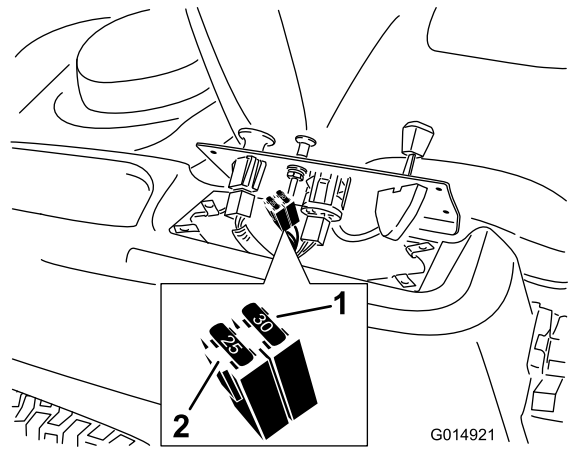

Figure 43
2. Lift the control pane up to access the main wiring harness and fuse block (Figure 43).
3. To replace a fuse, pull out on the fuse to remove it (Figure 43).